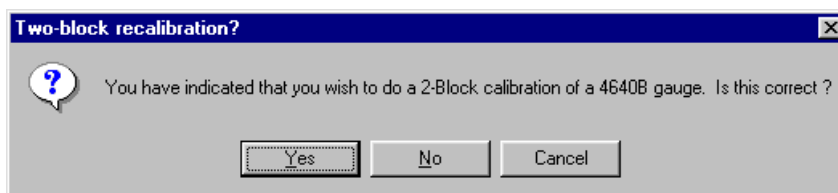

Figure 5–6. Two-Block Recalibration Query
16. The program now displays the first calibration data entry screen. If the user had indicated that the calibration was a 3-block calibration, the display is as shown in Figure 5–7, with spaces for entering the bulk density counts from the magnesium, mag/aluminum, and aluminum blocks. If instead the user selected a 2-block recalibration, the display is as shown in Figure 5–8, with the spaces for the mag/aluminum bulk density counts omitted.